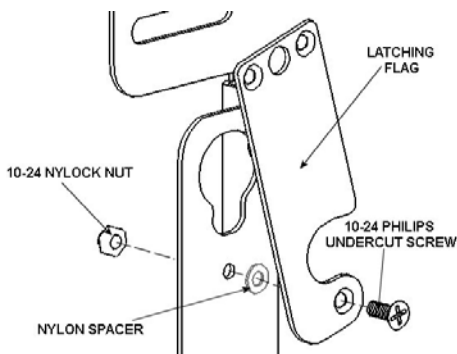

Figure 2
1. Secure latching flags to the inside mounting hole of the mount using two 10-24 x .5 FH undercut screws, two Nylon washers, and two 10-24 Nylock nuts (see Figure 2). Tighten until friction will hold the flags in place.